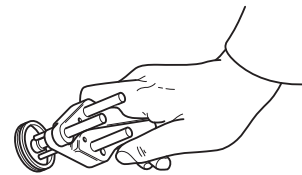

Fig 25.
- b Close the tool. → Fig 25. \(□ E25-33\). The seal must form a reniform (kidney shape).